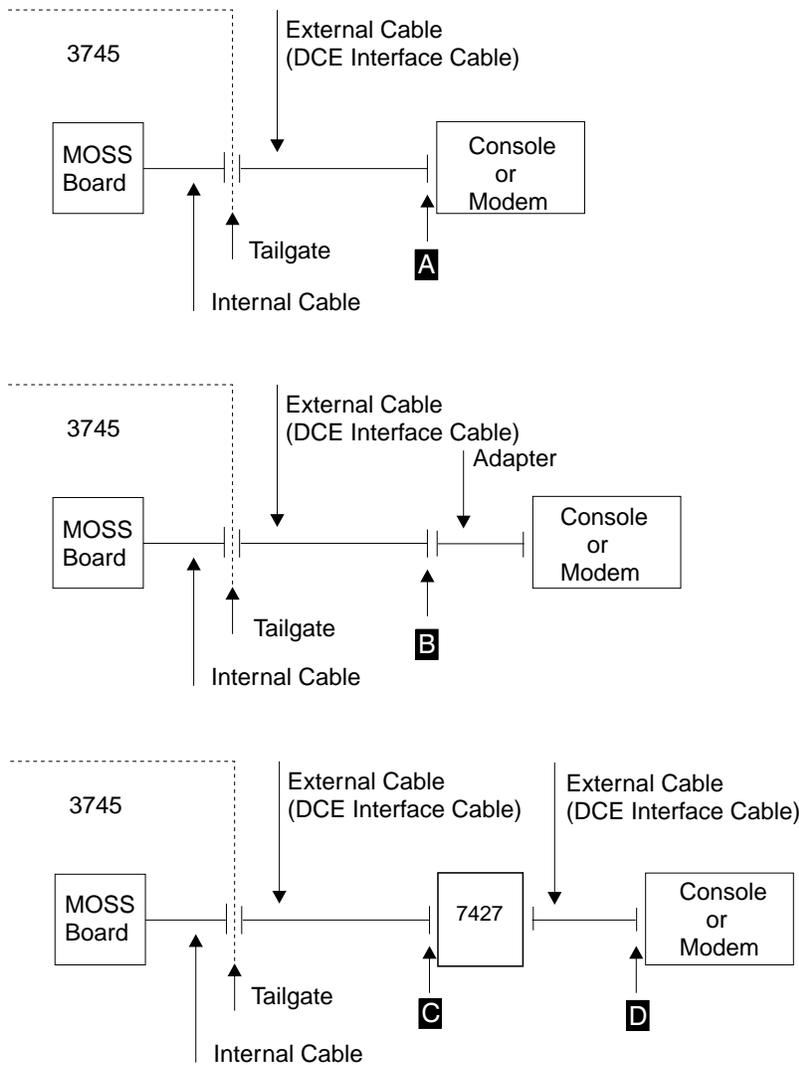

Figure 3-3. Cable Configurations
4. We advise you to start the wrap plugging from the far end of the DCE interface cable. Refer to Figure 3-3 on page 3-7 for the different cable configurations.
- DCE interface cable between the 3745 and the console/modem **without** an intermediate "adapter" (**A** in Figure 3-3).
- DCE interface cable between the 3745 and the console/modem **with** an intermediate "adapter" (**B** in Figure 3-3).
- DCE interface cable between the 3745 and the console switch (7427) (**C** in Figure 3-3).
- DCE interface cable between the console with the (7427) and the console/modem (**D** in Figure 3-3).